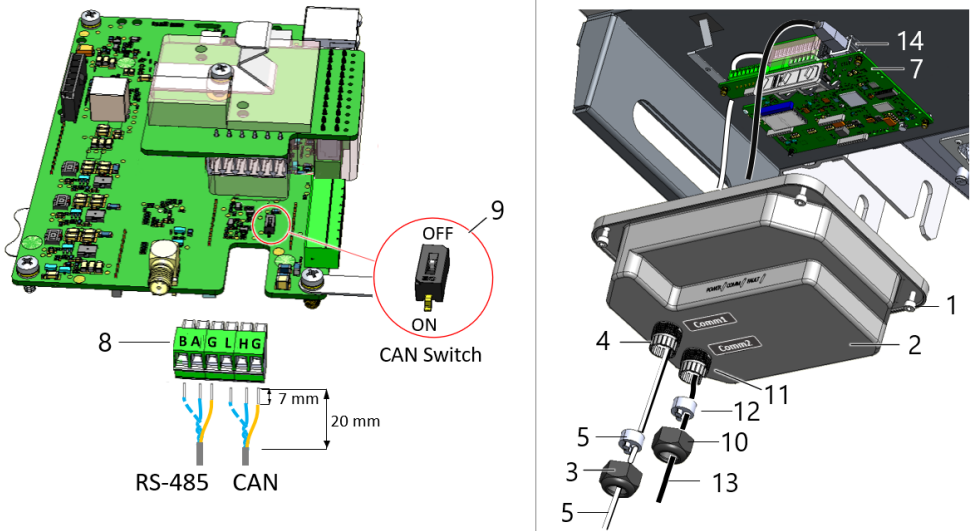

Figure 30: Connecting the communication cables
Make sure the CAN Switch (see item 9 in *Figure 30*) is set to ON position on the first and last inverters on the CAN bus.
4. Release the four Allen screws (1) of the communication compartment cover (2) and remove the cover (see *Figure 30*).
5. Loosen the nut (3) of Comm 1 gland (4) and remove the rubber seal (5).
6. Route the communication cable (6) via one of openings in the rubber seal, through the gland and communication compartment cover (2).
7. Pull down to remove the communication board (7) from the enclosure.
9. Secure the wires to the terminal screws of the connector (8) and plug the connector to the communication board (7). Connect the other end of the cable to the same terminals of the next inverter.
10. Terminate the first and last inverters on the communication bus by moving the CAN Switch (9) to ON. All other inverters on the bus must be switched to OFF.
11. Install the communication board (7) back onto the enclosure.
12. Place the communication compartment cover (2) and secure the four Allen screws (1) to a torque of 3.9 N*m(see *Figure 30*).
13. Place the rubber seal (4) inside the gland nut (3) of Comm1 gland (13) and fasten the nut to a torque of 5.5 N*m.
1. Loosen the nut (10) of Comm2 gland (11) and remove the rubber seal (12) from within (see *Figure 30*).
2. Route the Ethernet cable (13) through one of openings in the rubber seal, and through the gland, into the enclosure.
4. Plug the Ethernet cable (13) into the LAN port (14).
5. Attach the communication board (7) to the enclosure.
6. Insert the rubber seal (12) into the Comm2 gland (11) and tighten the nut to 5.5 N*m.
7. Place the communication compartment cover (2) and secure the four Allen screws (1) to a torque of 3.9 N*m.